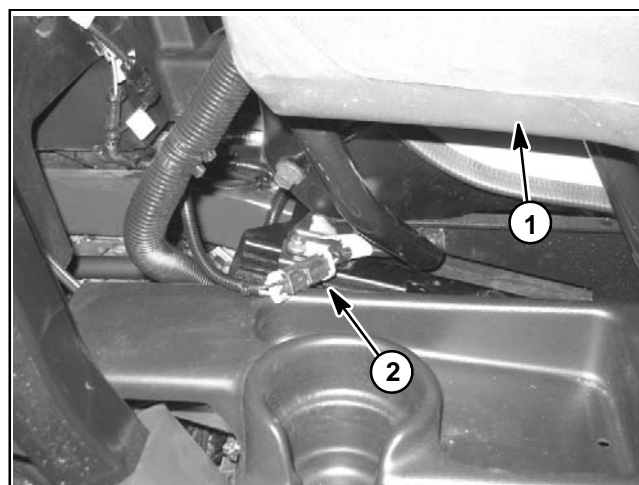

Figure 41
4. Disconnect seat switch wire harness connector from machine wire harness at rear of operator seat (Fig. 41).